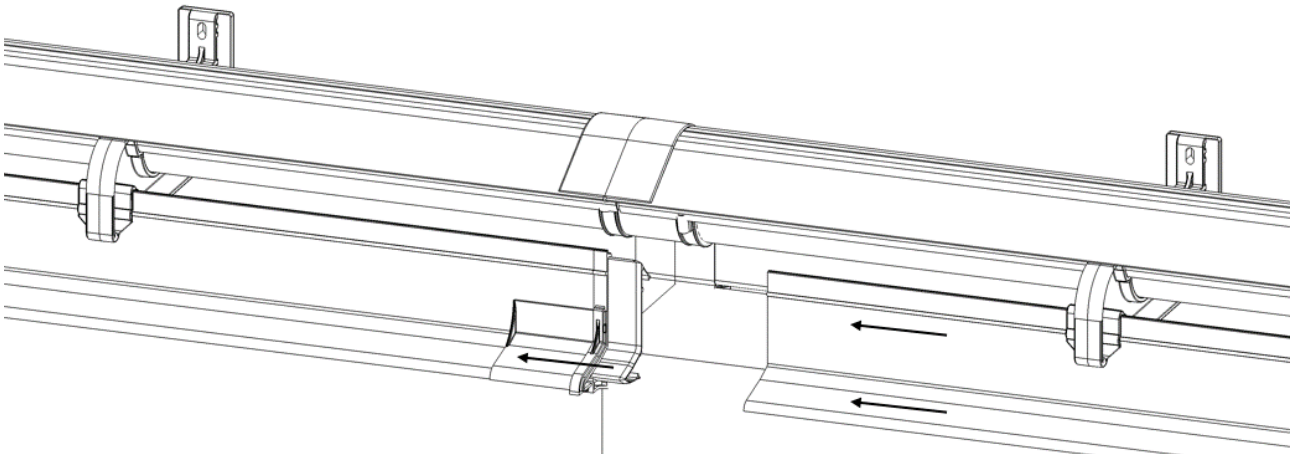

Figure 32
Repeat the procedure from Step 17 by inserting the Pad Guide Coupler [*ref. 10*] to connect the all Pad Guides together. Push the slider of the Pad Guide Coupler to the left and then insert the next Pad Guide. See Figure 32. Secure the connection by pushing the slider to the right, half way between the pad guides.